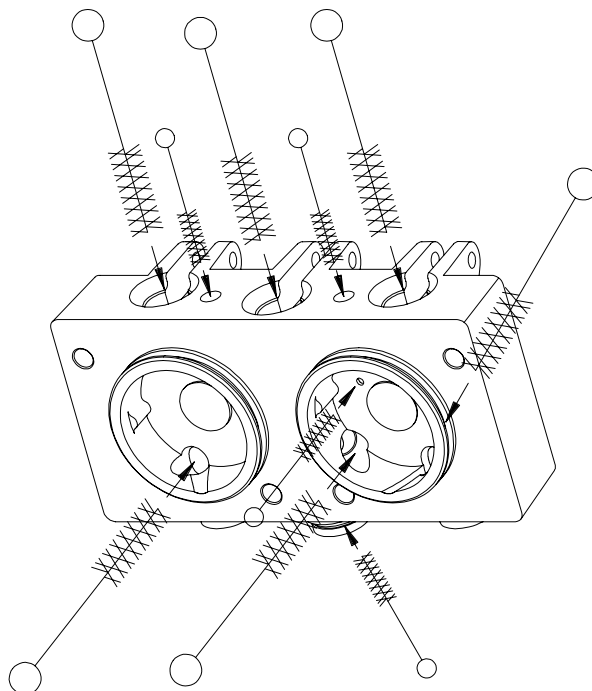

Figure 6-6 Clean head ports and openings with brush.
- The head plunger openings, center plunger ports, O-ring grooves, dispense nozzle mounting rings, and mix ports, as shown in figure 6-6.